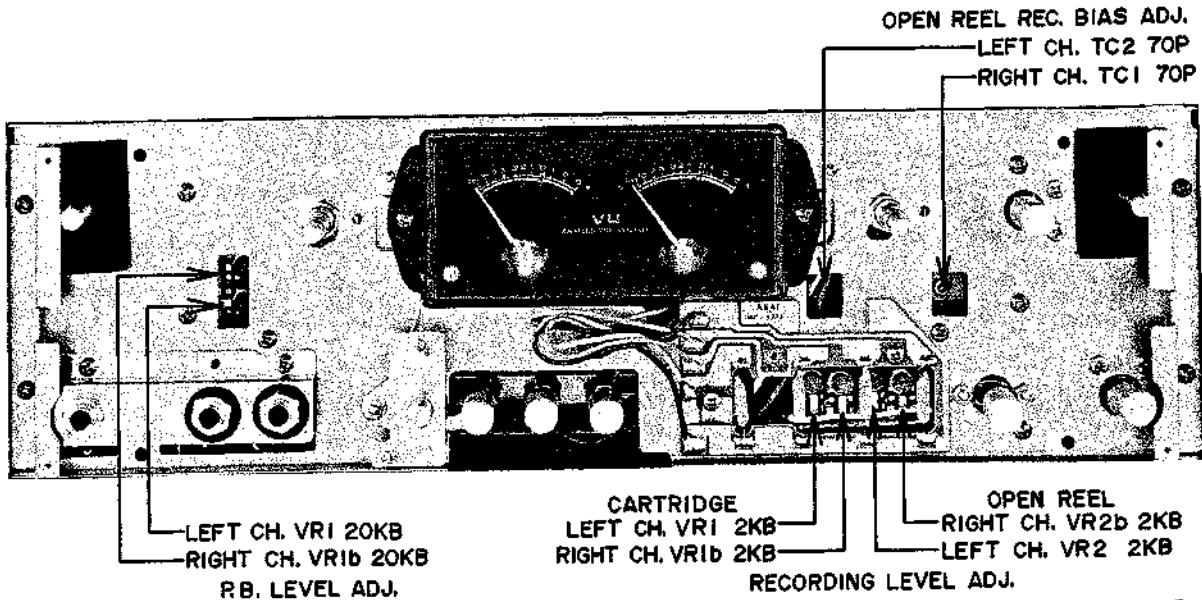

Fig. 20
- 6) Adjust Pre-amp. P.C. Board Playback Level Adjustment Semi-fixed Resistors VR1 20 k Ω (left ch.), and VR1b 20 k Ω (right ch.) in Fig. 20 to obtain a high sensitivity V.T.V.M. indication of 4 dB (1.228 V).
- 9) In the event that the V.T.V.M. indication is not 4 dB, adjust Mode Switch P.C. Board Open Reel Recording Level Adjustment Semi-fixed Resistors VR2 2 k Ω (left ch.) and VR2b 2 k Ω (right ch.) shown in Fig. 20 to obtain a 4 dB (1.228 V) V.T.V.M. indication.